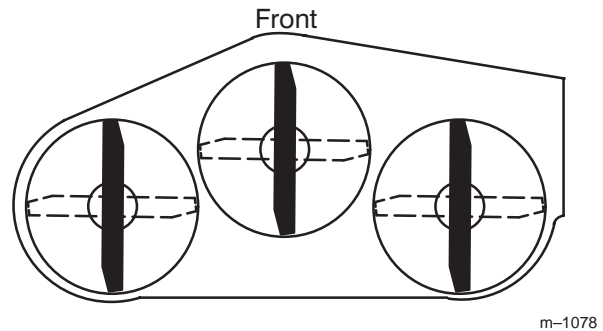
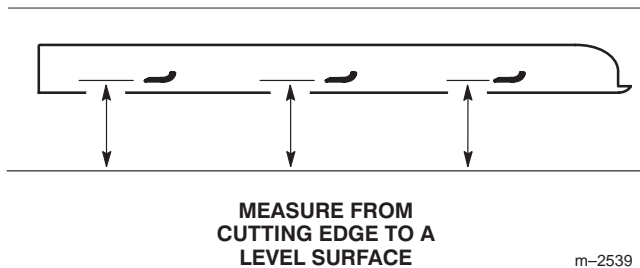

Figure 13
Figure 14
1. Rotate the blades until the ends face forward and backward (Fig. 13). Measure from a level surface to the cutting edge of the blades (Fig. 14). Note this dimension.